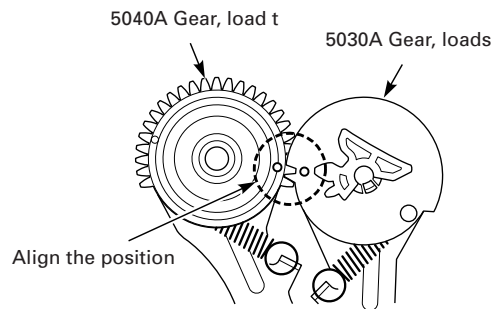

Fig. 8.26
**Note:** Reassemble the load gears (5030A and 5040A) in the position shown in Fig. 8.26. When fitting the load gears (5030A and 5040A) and the load springs (5030B and 5040B) make sure that the spring hooks of the load gears (5030A and 5040A) protrude 0.5mm from the plates of the load levers (5030C and 5040C, Fig. 8.27).